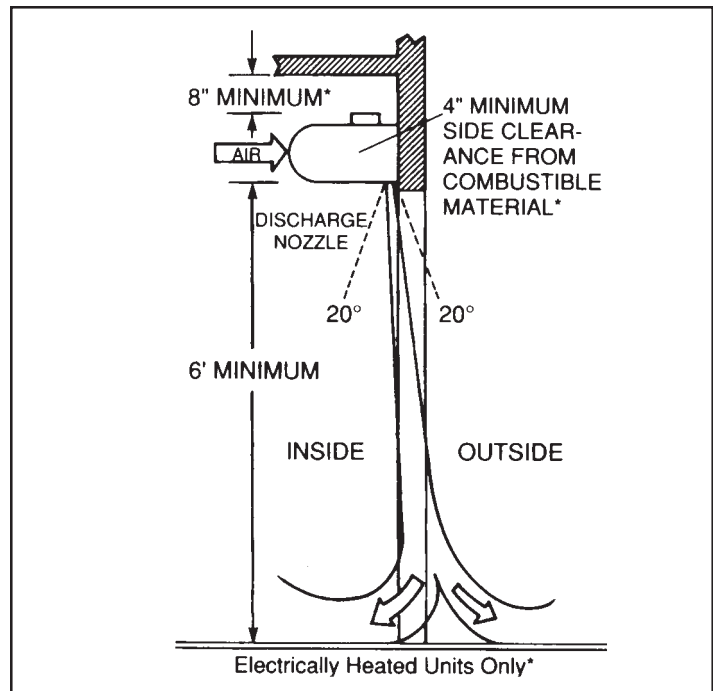

Figure 2
The DIPLOMAT/MARK II air door is designed to be an effective barrier against cold drafts in the winter and hot humid air in the summer. To achieve optimum protection, the unit should be mounted on the inside of the building, flush to the wall (do not obstruct the nozzle or air stream) and as close to the top of the door opening as possible. **See Figure 2.**
1. Install the DIPLOMAT/MARK II Series Air Door so that nothing interferes with the curtain of air when it is deflected 20° to either side. If the air stream strikes any obstruction, i.e. the top edge of the doorway, a structural beam, a door opening device, etc., its efficiency will be greatly reduced. **See Figure 2.**
1. Install the DIPLOMAT/MARK II Series Air Door so that nothing interferes with the curtain of air when it is deflected 20° to either side. If the air stream strikes any obstruction, i.e. the top edge of the doorway, a structural beam, a door opening device, etc., its efficiency will be greatly reduced. See Figure 2.